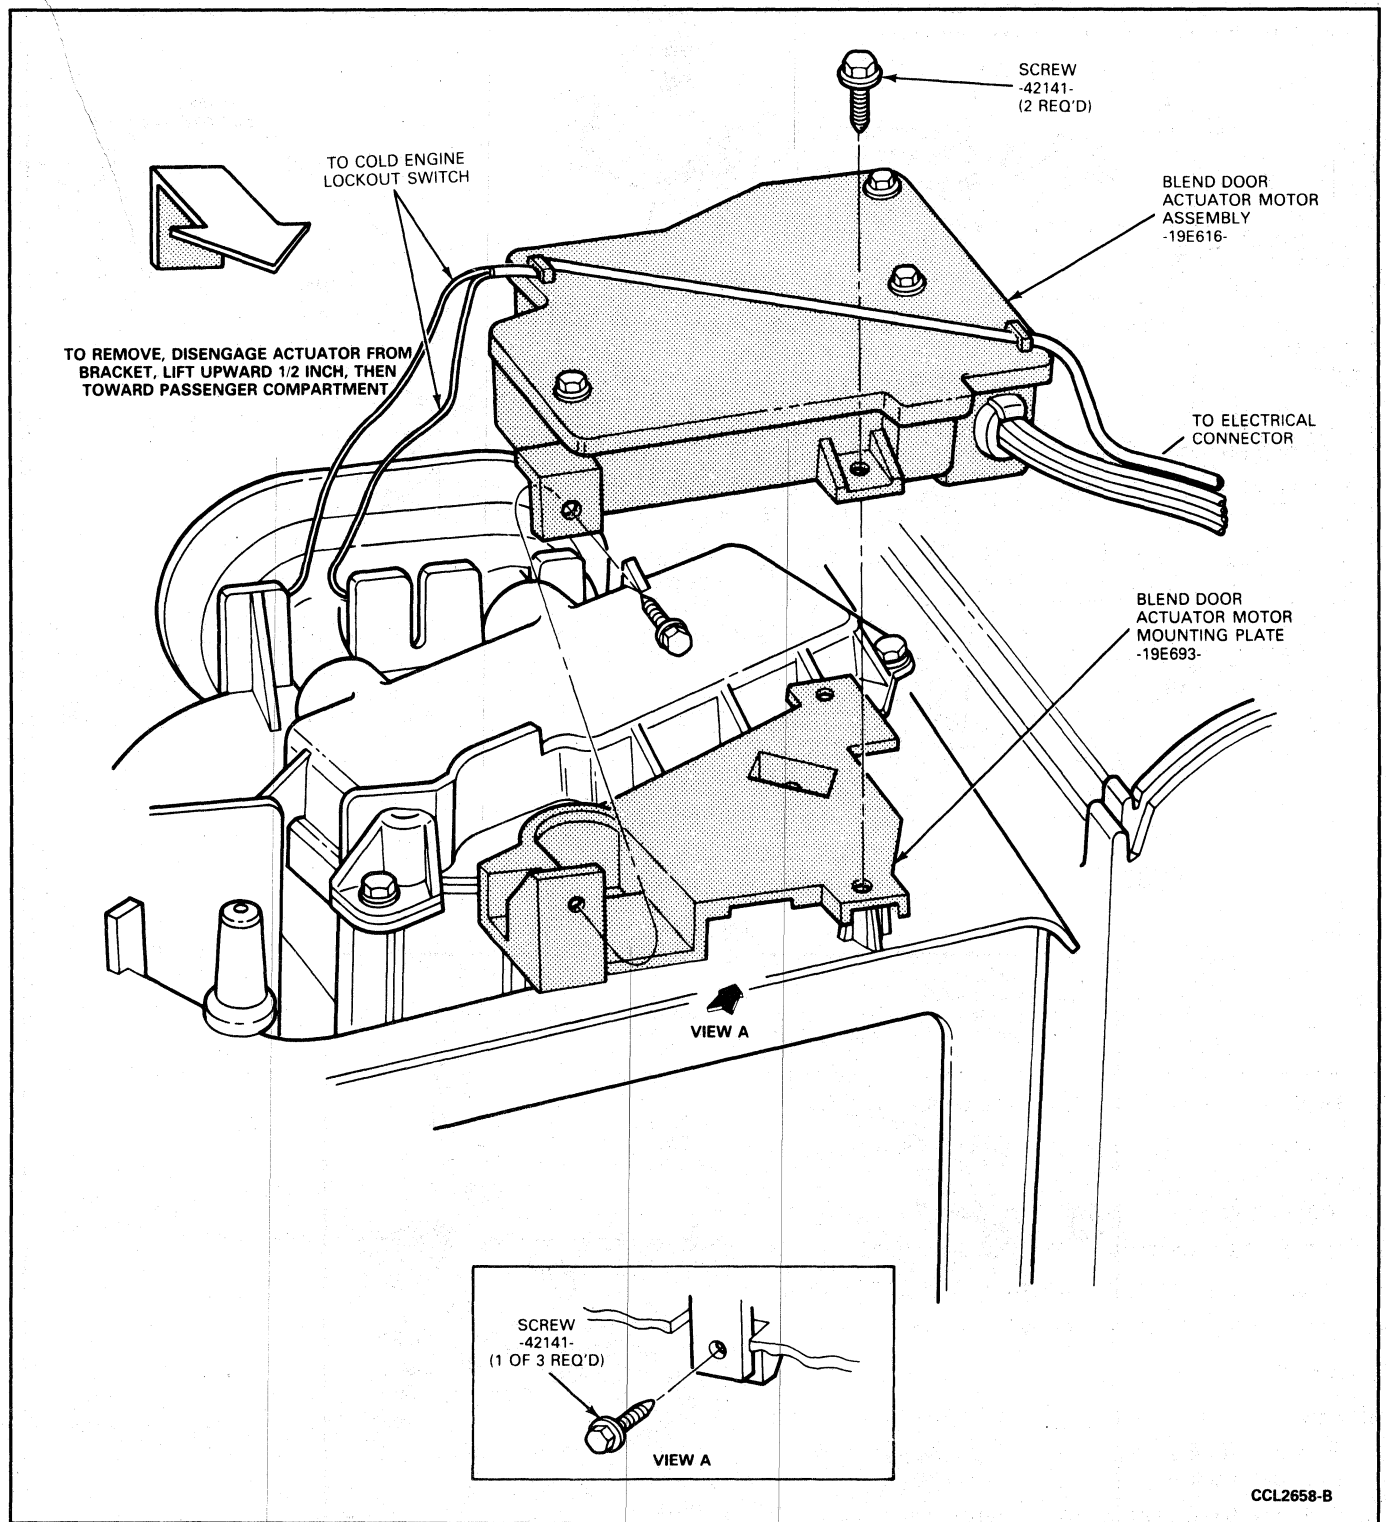

FIG. 30 Electric Blend Door Actuator Attachments
4. Remove three actuator attaching screws and the cold engine lock out switch which is attached by a spring clip to the outermost heater core tube (Figs. 30 and 31).